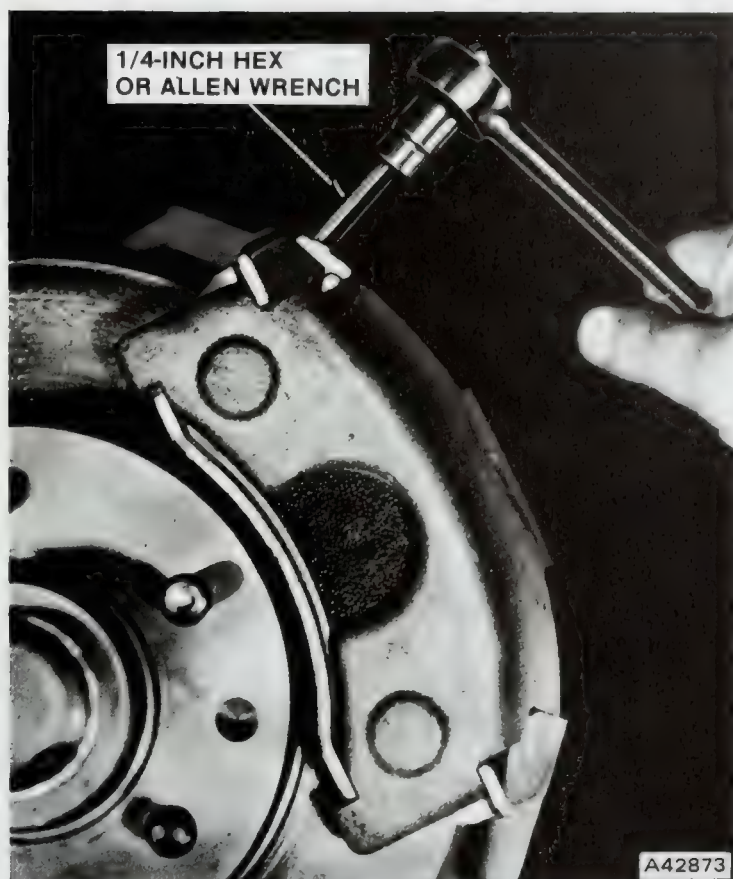

Fig. 2F-22 Retaining Screw Removal
(9) Lift caliper assembly out of anchor plate and off rotor (fig. 2F-24).
(10) Suspend caliper from coil spring using heavy wire. Do not let brake hose support weight of caliper.
(11) Remove inboard brakeshoe from anchor plate.